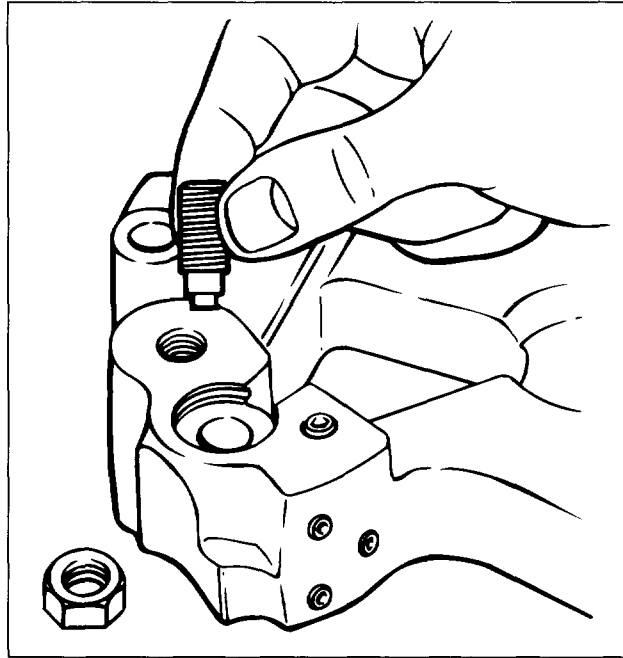

FIG. 9
1. Loosen the slave piston adjusting screw locknut and remove the adjusting screw from the housing (see Fig. 9).